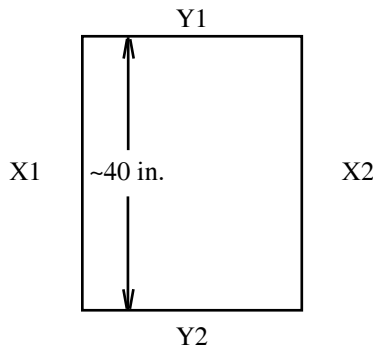

Figure 30. The Calibration box and measurements.
2. Select **Tools>Size Calibration** from the **Menu Bar**. The window in *Figure 30* will appear: